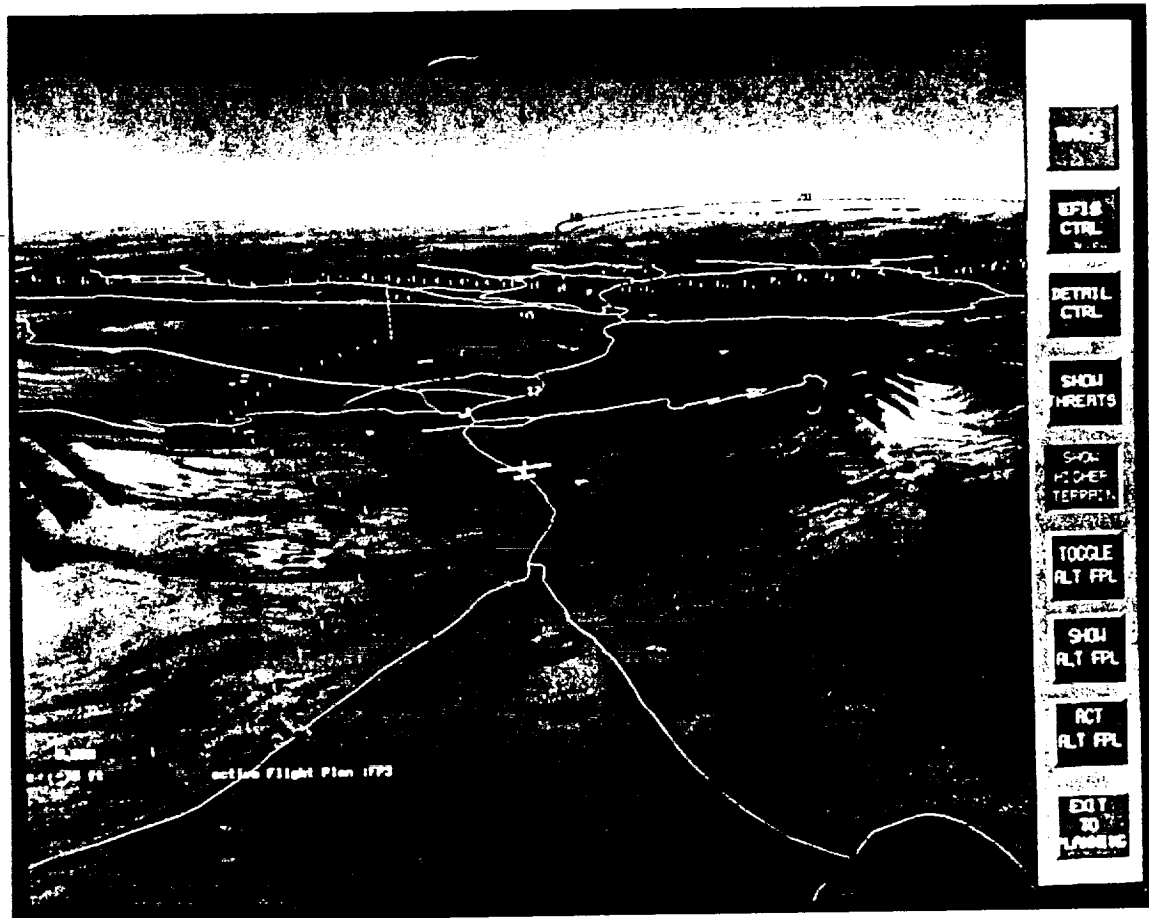

Figure 4: Navigation Display Format:
- Terrain elevation and obstructions relative to present aircraft height (Figure 4)